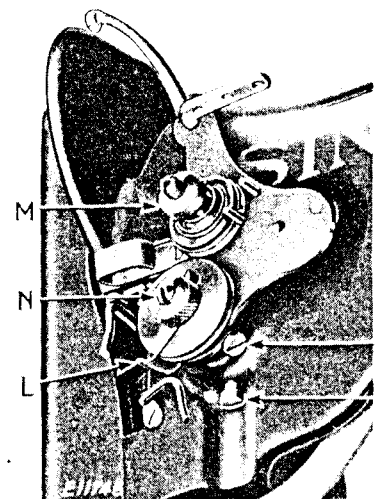

Fig. 18
The tension on the needle thread should only be regulated when the presser foot is down. Having lowered the presser foot, turn the thumb nut (M, Fig. 18) at the front of the tension discs over to the right to increase the tension. To decrease the tension, turn this thumb nut over to the left.
For more controller action on the thread, loosen the stop screw (O, Fig. 18) under the controller discs, and set the stop lower. For less action, set the stop higher. The position of the controller spring (L) shown in Fig. 18 is the best average setting for stitching fine fabrics and light leathers.
To strengthen the action of the controller spring on the thread, loosen the tension stud screw (P, Fig. 18), and turn the tension stud (N) slightly to the left with a screwdriver. To lighten the spring action, turn the stud to the right, then tighten the tension stud screw (P). A slightly stronger tension is required on this machine than on most other zigzag machines.